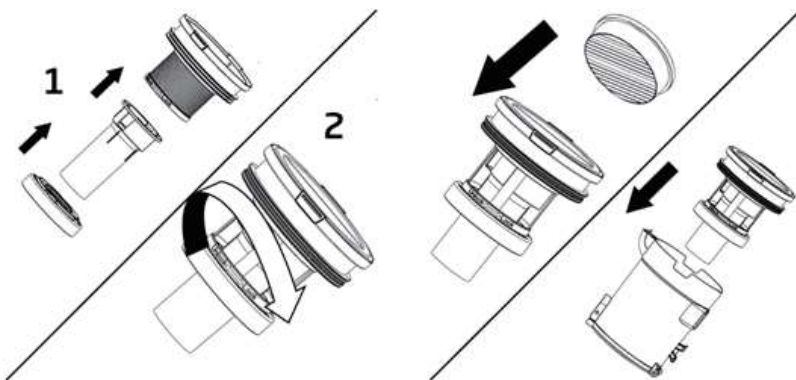

Fig. 18
6. When the filter is completely dry, reverse the above steps and refit the filter into the dust container and close the flap. In each case turn in the direction of the locked padlock symbol (fig. 18).